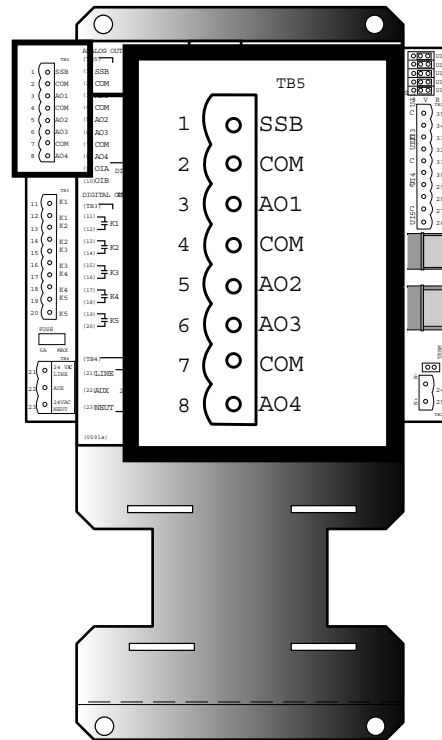

Figure 2-11: Location of the Analog Outputs on the NB-V3Tb
The NB-V3Tb has four (4) analog outputs capable of producing a 0-10 VDC output. The NB-V3Td does not have any analog outputs. On the NB-V3Tb, the analog outputs are connected via terminal block TB5. The location of the analog outputs are shown in Figure 2-11. The terminal block has connections for each analog output. There are also common connections to ground located between each pair of outputs.